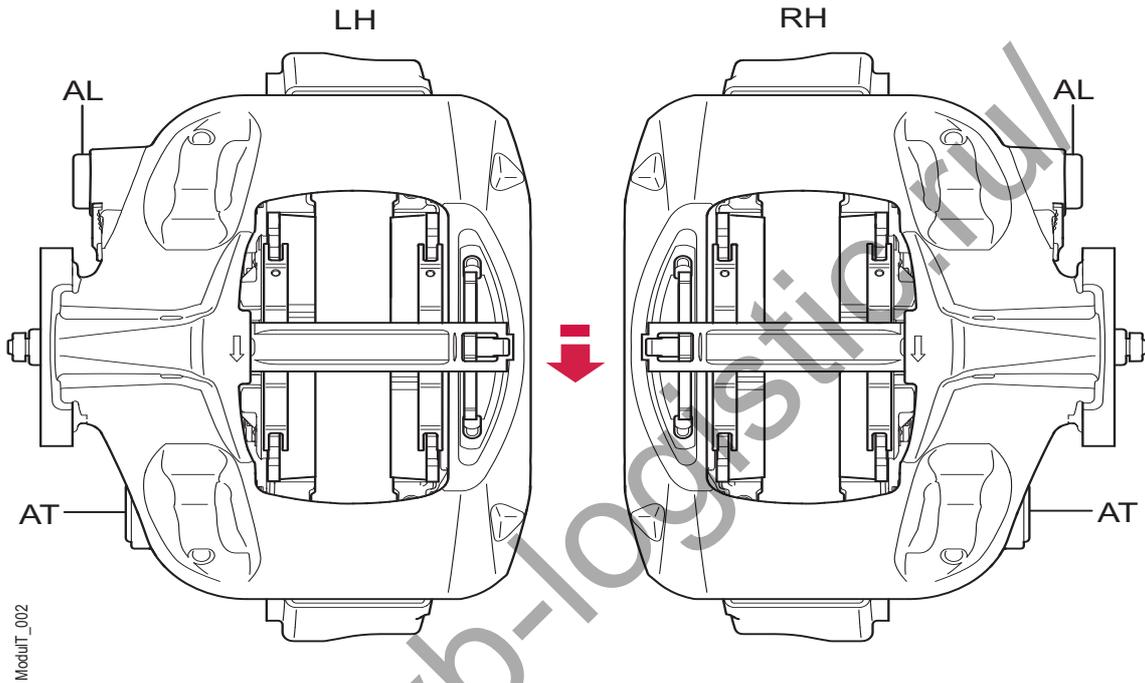

Figure 69. Haldex ModulT orientation
Figure 69 below shows a general overview of both variants and their relation to the normal wheel/disc rotation, shown as a red arrow, and their leading (AL) and trailing (AT) slide functions.
Each calliper also has a rotation arrow formed on the cast surface where the pad retainer seats on the inboard side, see figure 69.